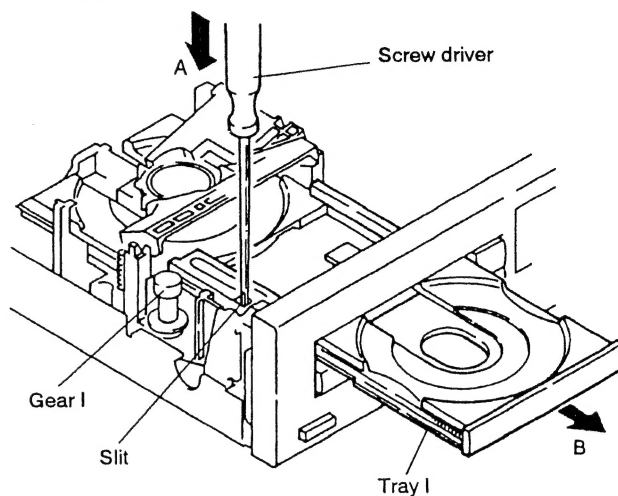

Fig. 3
- (2) As shown in Fig. 3 insert a screw driver to the left slit of the tray I and pull out the tray in the direction of the arrow B, while the screw driver keeping to press in the direction of the arrow A.
- (2) As shown in Fig. 3, insert a screw driver to the right slit of the tray II and pull out the tray in the direction of the arrow B, while the screw driver keeping to press in the direction of the arrow A.